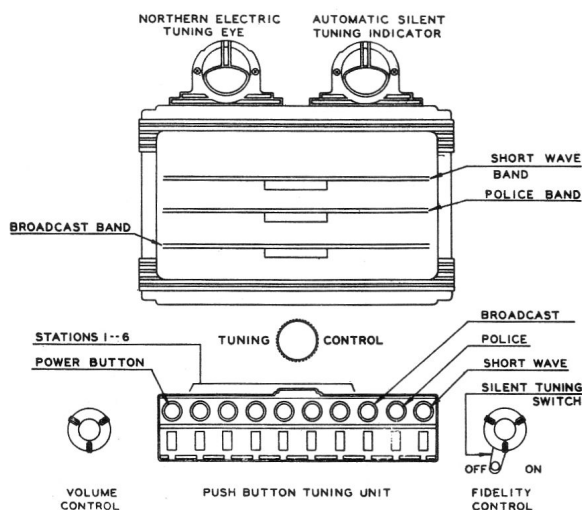

Figure 1.—Control Layout
**GENERAL:**—This is an A-C operated radio receiver in a console cabinet using thirteen tubes and a super-heterodyne circuit. Three manually tuned bands are provided: Broadcast, Police and Short-Wave, with frequency ranges of 540 to 1600 kilocycles, 1.58 to 4.82 megacycles, and 4.8 to 15.5 megacycles respectively. The positions of the push-button tuning unit of the wave-change switches for these bands are shown on the Control Layout (Fig. 1). An indicator lamp illuminates the name of the band on the dial which is in use. A large rectangular dial with an edge-lighted glass dial-scale is used and has the calibrations in megacycles in etched white figures. The main short-wave bands are marked in red and identified by figures indicating the wavelength. The tuning